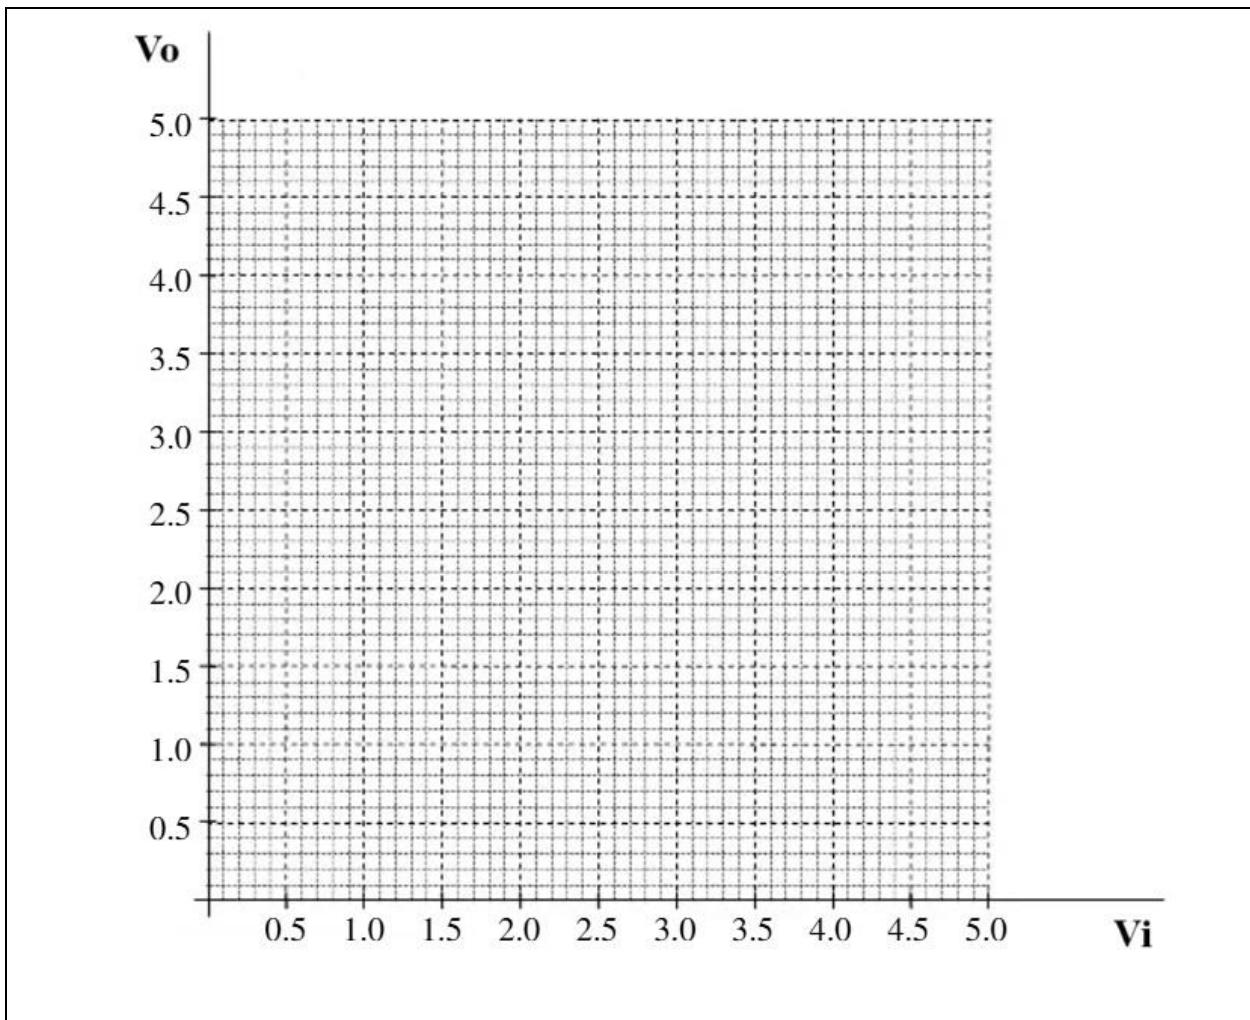

Figure 4: Voltage Transfer Characteristics of NMOS inverter
3. Note down the observed input ( $V_{in}$ ) and Output ( $V_{out}$ ) voltages in Table 2 and sketch the VTC in Figure 4.